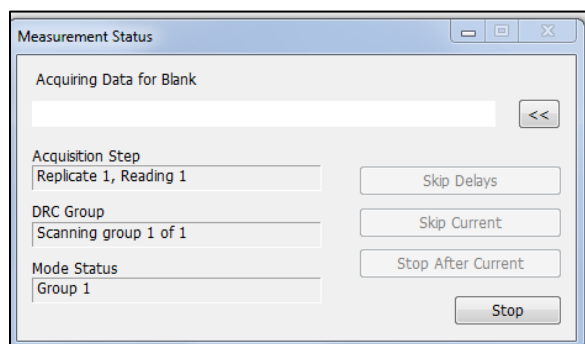

Figure 14: Progress bar for data acquisition.
- f. A Measurement Status screen will appear, which will show a progress bar for the duration of the Blank analysis (**Figure 14**), followed by a report screen (**Figure 15**).